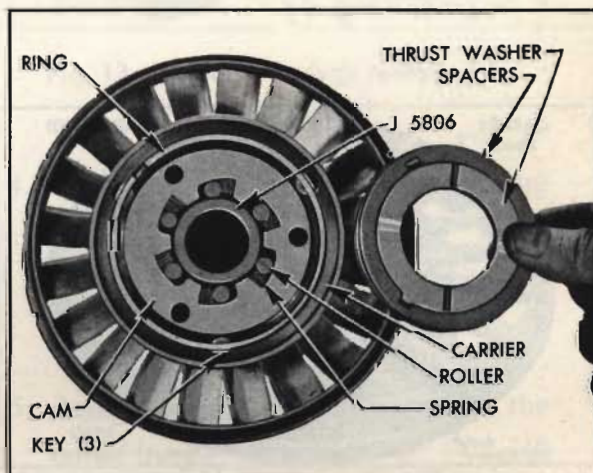

Fig. 7. Parts in rear side of stator
2. Pry the retaining ring from the groove in the stator blade rear carrier. Remove free wheel cam and three driving keys (Fig. 7).